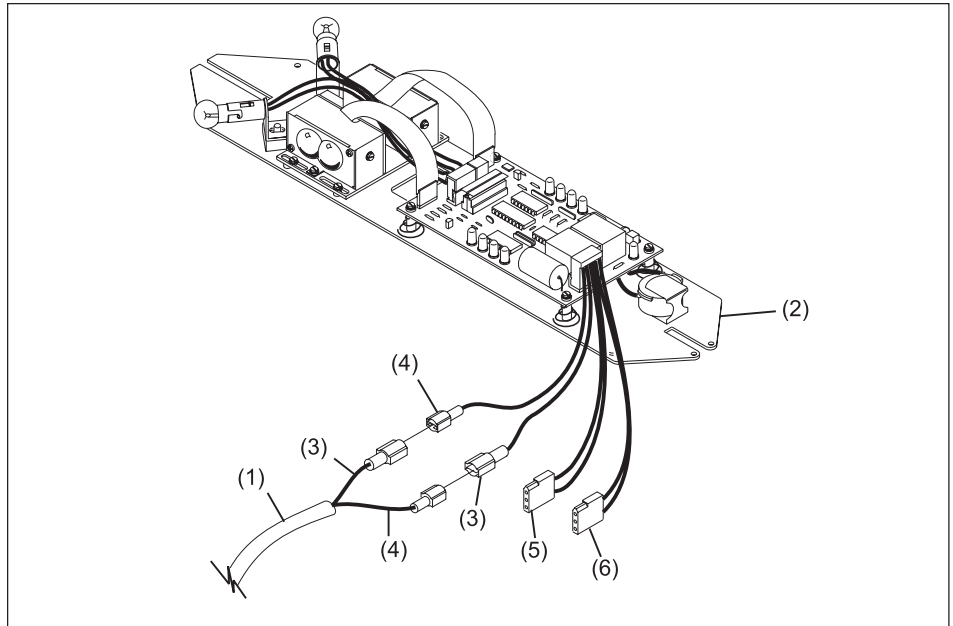

Figure 7.
2. Connect the power cable to the Tel-E-Foul unit. Refer to *Figure 7*.